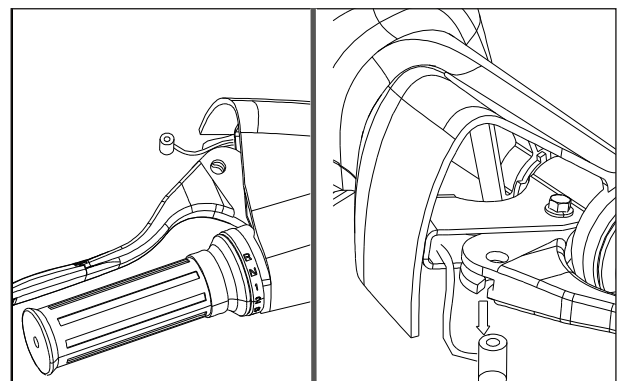

Fig. 5.9
- Loosen and remove nylon lock nut M6 from the bottom side of the lever assembly clutch. (Fig. 5.9)